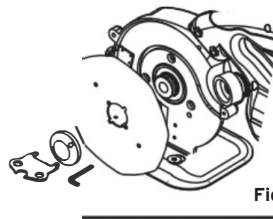

Figure 5.
3. Insert the inner hexagonal wrench into the blade and the hole of the rack plate, lock the blade, then insert the butterfly wrench into the locking nut, loosen the nut counterclockwise and remove the old blade (Figure 5 & 6).